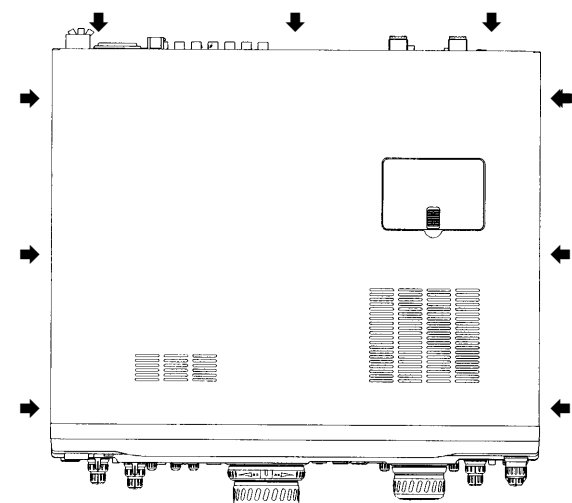
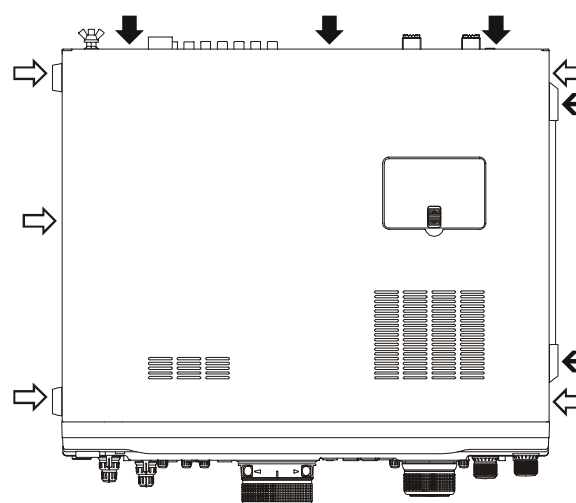

Figure 1 (FT-1000MP original version)
Figure 2 (MARK-V FT-1000MP Field)
- Referring to Figure 1 for the **FT-1000MP** (original version) or Figure 2 for the **MARK-V FT-1000MP Field**, remove the top cover from the transceiver.